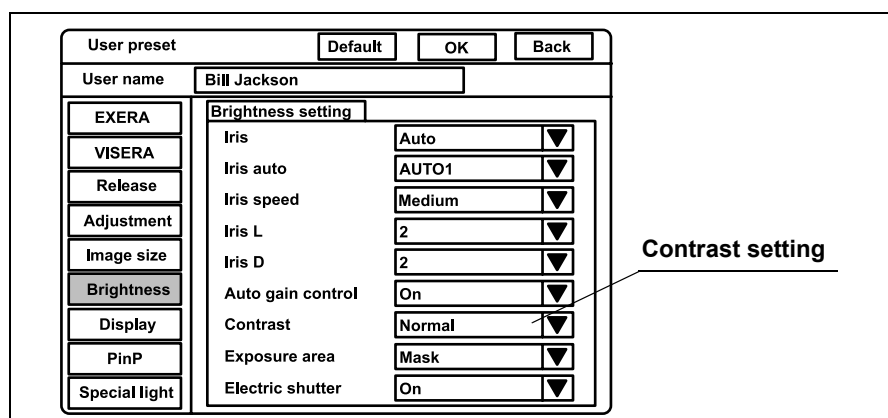

Figure 9.28
1. Click “▼” of “Contrast” (see Figure 9.28). The exposure areas appear in the pull-down menu.